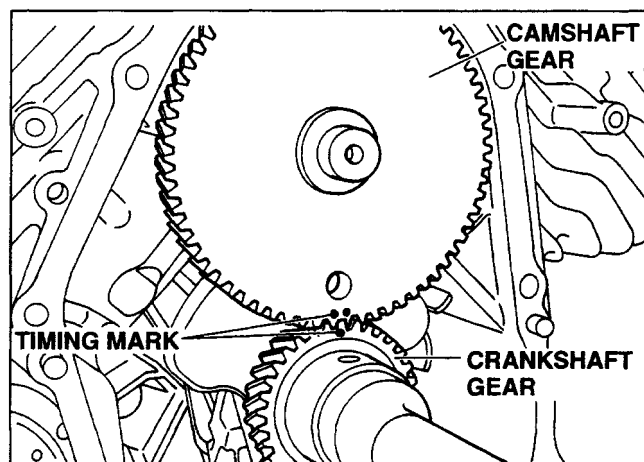

FIGURE 6-7.
2. Lubricate bearing surfaces of the camshaft. Install camshaft into the crankcase aligning the timing mark on the camshaft to the timing mark on the crankshaft gear. See Figure 6-7.